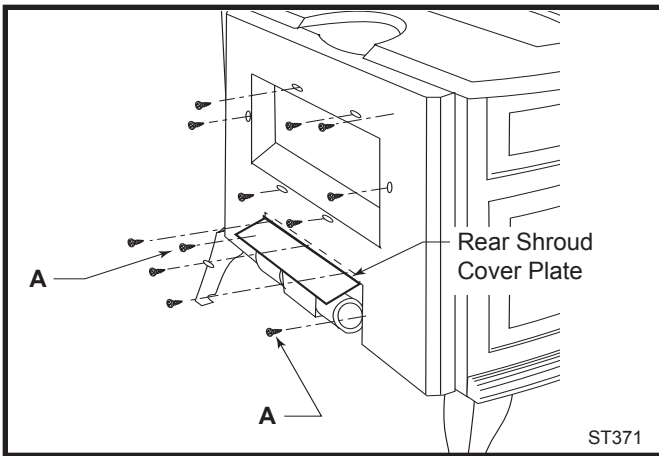

Fig. 13 Attach rear shroud cover plate to the rear shroud.
9. Reattach the rear shroud cover plate by fastening it to the rear shroud as shown in Figure 13. The top edge of the cover plate goes inside the rear shroud. Reinstall and tighten the six sheet metal screws around the draft hood opening; see 'A', Figure 13. Use two screws from the fan kit to fasten the rear shroud to the fan shield; refer to 'A', Figure 13. Plug the fan cord into a standard grounded 110 volt household outlet.